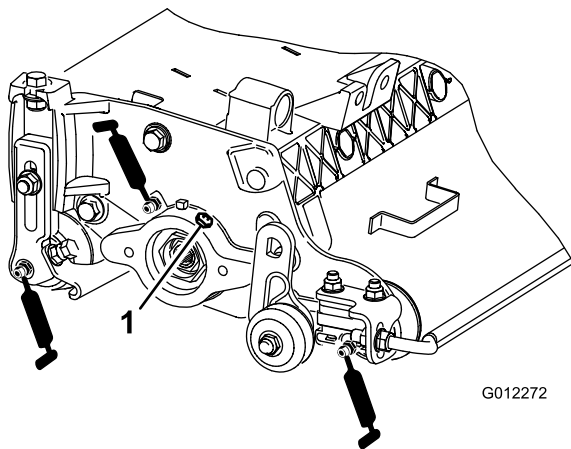

Figure 8
Each verticutter has 6 grease fittings (Figure 8) that must be lubricated weekly with No. 2 General Purpose Lithium Base Grease.
2. Apply grease until clean grease is seen coming out of the roller seals and the bearing relief valve (Figure 8).